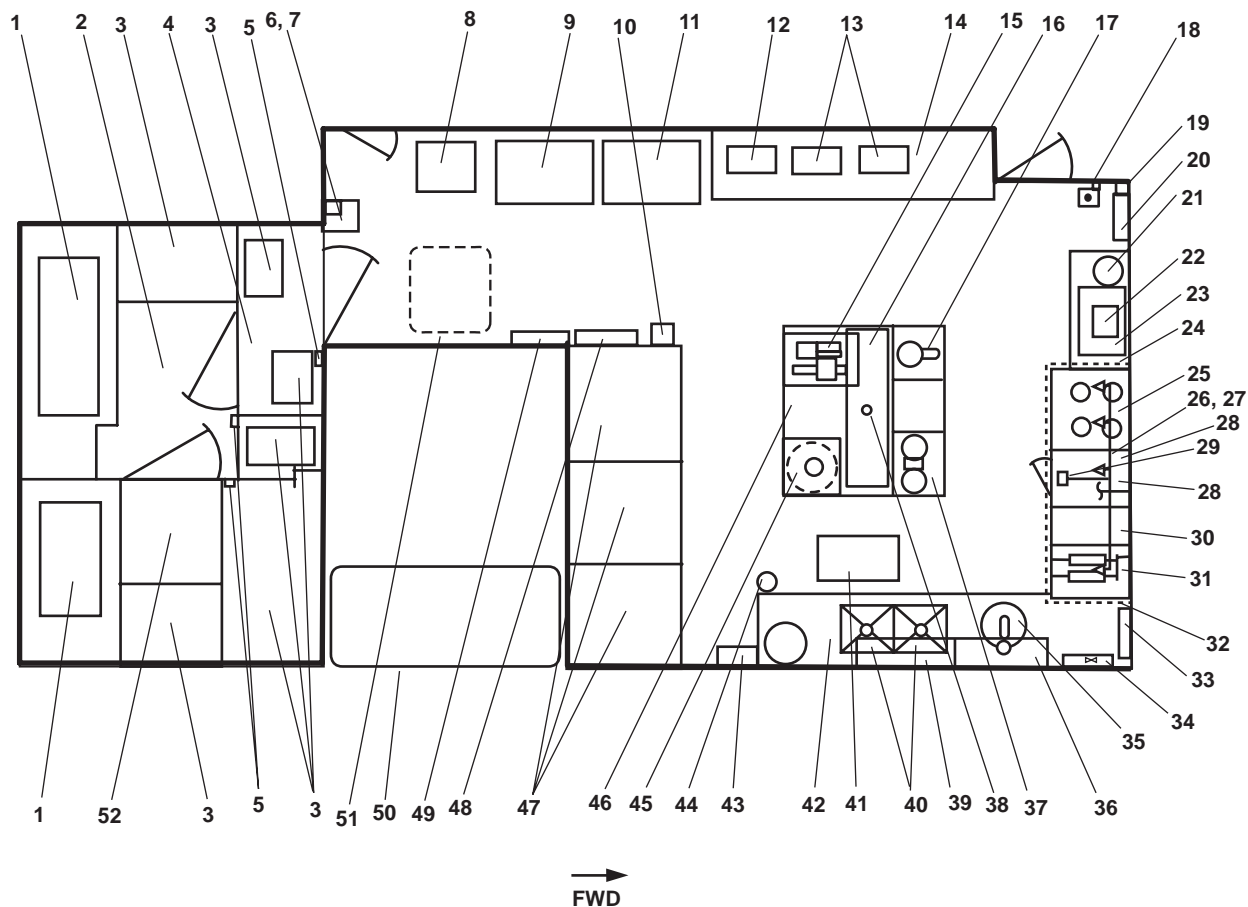

Figure 9. Galley
1. Fan coil unit (figure 9, item 1). One fan coil unit provides cooling capability for the chill box and a second fan coil unit provides cooling capability for the walk-in freezer.
2. Chill box (figure 9, item 2). The chill box is a walk-in refrigerator.
3. Shelves (figure 9, item 3). The shelves are used for storage.
4. Thaw room (figure 9, item 4). The thaw room is used to thaw frozen foods.
5. Freezer alarm switch (figure 9, item 5). The freezer alarm switch is provided in the event a crewmember becomes trapped inside the chill box or freezer. The crewmember can activate the freezer alarm using the freezer alarm switch.
6. Freeze box alarm, freeze box timer, heater connector and disconnect switches (figure 9, item 6). These switches control various functions in the galley reefer area.
7. Defrost heater controller for the vessel's storage refrigerator and freezer system (figure 9, item 7). The defrost heater controller controls the power to the vessel's storage refrigerator and freezer system defroster.
8. Trash compactor and safe (above) (figure 9, item 8). The trash compactor compacts trash, reducing the volume of trash. The safe provides a secured storage area for miscellaneous items.
9. Freezer (figure 9, item 9). The freezer is used for frozen day stores.
10. Sound powered telephone, thermostat (above), and fire extinguisher (below) (figure 9, item 10). The sound powered telephone is used for intraship communications. The thermostat provides temperature control for the galley space. The fire extinguisher is used to put out small fires on the vessel.
11. Refrigerator (figure 9, item 11). Used for day stores requiring refrigeration.
12. Cold well (figure 9, item 12). The cold well is used for serving salads and other cold food.
13. Hot well (figure 9, item 13). The hot well is used for serving hot foods.
14. Steam table (figure 9, item 14). The steam table provides controls for hot wells and dish storage (under).
15. Meat slicer and storage shelves (under) (figure 9, item 15). The countertop mounted meat slicer is used to slice food products. The storage shelves are provided below counter top for storage space.
16. Shelf (over) (figure 9, item 16). The shelf provides storage space.
17. Mixer (figure 9, item 17). The mixer is used to combine ingredients.
18. Manual pull box (figure 9, item 18). The manual pull box allows the crew to manually activate the galley fire suppression system.
19. Thermostat (figure 9, item 19). The thermostat provides temperature control in the galley.
20. 440V power panel No. 2 (figure 9, item 20). This power panel provides 440 volts distribution for the galley equipment.
21. Coffee percolator (figure 9, item 21). Counter top mounted percolator provides hot coffee for the crewmembers.
22. Toaster (figure 9, item 22). Countertop mounted four-slice toaster.
23. Microwave (over) (figure 9, item 23). Microwave oven mounted on shelf overhead is used for quick food preparation.
24. Counter with cabinet (over) (figure 9, item 24). The counter with cabinet is used for storage.
25. Range (figure 9, item 25). Electric range and oven is used for food preparation.
26. Temperature sensing fusible links (within ventilation hood) (figure 9, item 26). The temperature sensing fusible links are the detection portion of the galley fire suppression system. The fusible links allow automatic detection by means of specific alloy melting ratings. When the temperature exceeds the rating of the link, the link separates, allowing the galley fire suppression system to be activated.
27. Distribution nozzles (within ventilation hood) (figure 9, item 27). The distribution nozzles deliver the galley fire suppression extinguishing agent to the galley heat producing equipment.
28. Griddle with cabinet (figure 9, item 28). Electric griddle used for food preparation. Cabinet storage is provided below.
29. Hood damper control knob (figure 9, item 29). The hood damper control knob contains fail-safe circuitry coupled with spring drive, which allows closure of the fire damper even if electrical power is interrupted or turned OFF. The hood damper control knob resets to normal operating position when the fan is restarted.
30. Counter with drawers (figure 9, item 30). The counter with drawers is used for storage.